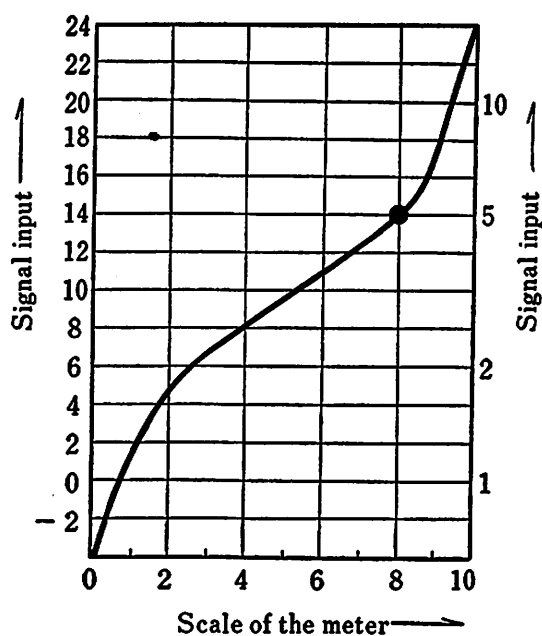

Figure 7-1
Meter ④ indicates the strength of the incoming signal in the receiving process, and the comparative value of power of transmission in the transmitting process. During reception of transmitted signal, the magnitude of the incoming signal to swing the pointer 8 graduations is equivalent to about $5\mu\text{V}$ (14 dB). The indication of the output of the transmitted signal is arranged in about 8 graduations. See Figure 7-1 for the relationship between the incoming signal in reception and the scale of the meter.